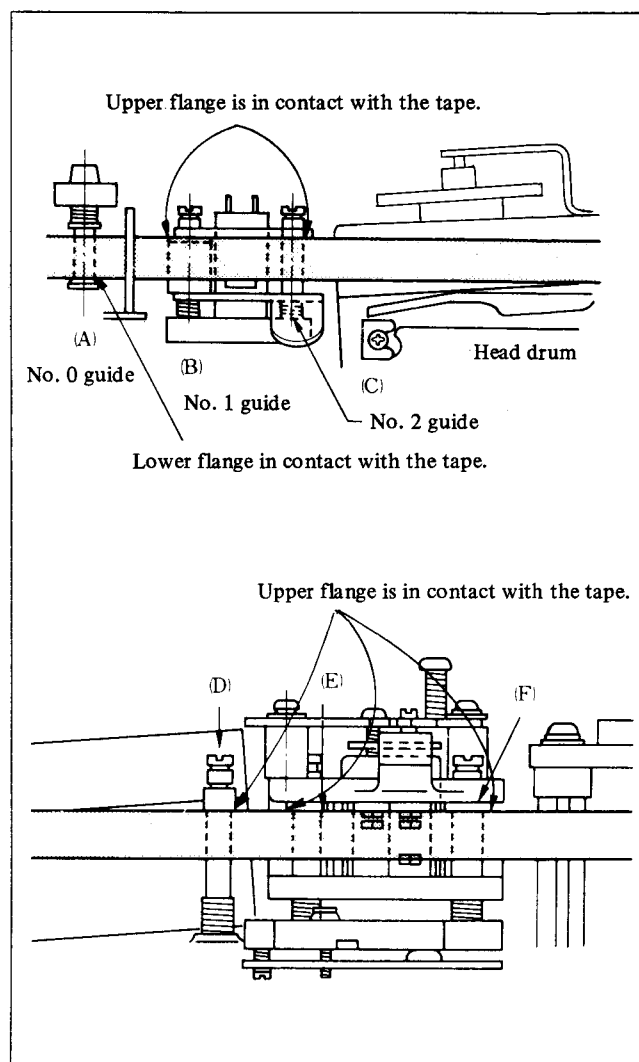

Fig. 3-27. Adjustment of Tape Path
When the waveform at the entrance side is not flat as shown in Fig. 3-27 for the clockwise and counterclockwise turning of the TRACKING control knob from center, detent position, adjust the heights (A), (B), and (C) of tape guides (0), (1) and (2). When the waveform at the tape exit side is not flat, adjust the height of the tape guides (D), (E) and (F). The height adjustment must be performed so that the tape contacts with the drum heads, and there is a minimum curl (not more than 2 mm) at the flange of each tape guide, the upper or lower flange contacts with the tape as shown in Fig. 3-27, and the RF waveform is flat.
- (2) Perform the adjustment, following Step 3 onward after replacement.
- (3) Raise the tape guide (D) shown in Fig. 3-27 by 0.5 mm. (Move the nut one turn)